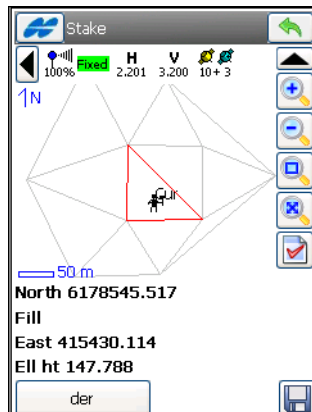

Figure 9-58. GPS Stakeout
3. For GPS+: use the information on the *Stake* screen for finding the target. Tap  after the position is close enough to the desired point (Figure 9-58 on page 9-43).